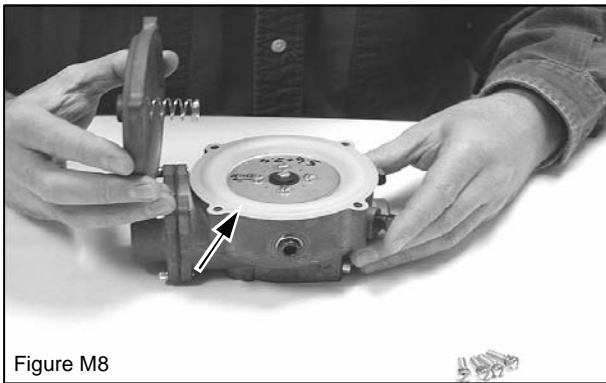

Figure M8
5. Place the alignment mark on top of the air valve assembly toward the fuel inlet of the mixer; this places the small notches in the fuel metering valve (fuel cone) inline with the fuel inlet and the large notches of the fuel metering valve "cone", perpendicular to the fuel inlet of the mixer. Now reinstall the air-valve spring and diaphragm cover (Figure M8).